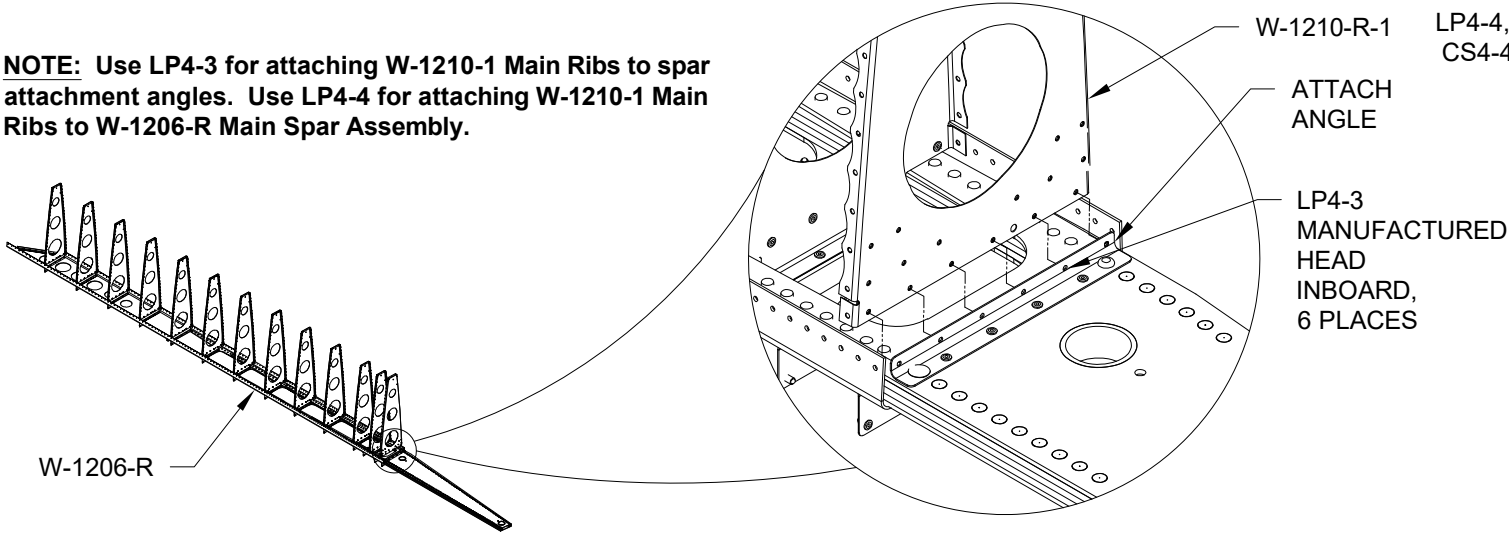

FIGURE 2: ATTACHING THE MAIN RIB AND DOUBLER
Step 6: Cleco then rivet the remaining five W-1210-L-1 Main Ribs to the next inboard attach angles and to the W-1206-R Spar Assembly as shown in Figure 2.
Step 7: Cleco then rivet the forward trimmed W-1210-R-1 Main Rib with the attached W-1210B-R Rib Doubler to the most inboard attach angle on the W-1206-R Spar Assembly as shown in Figure 2.